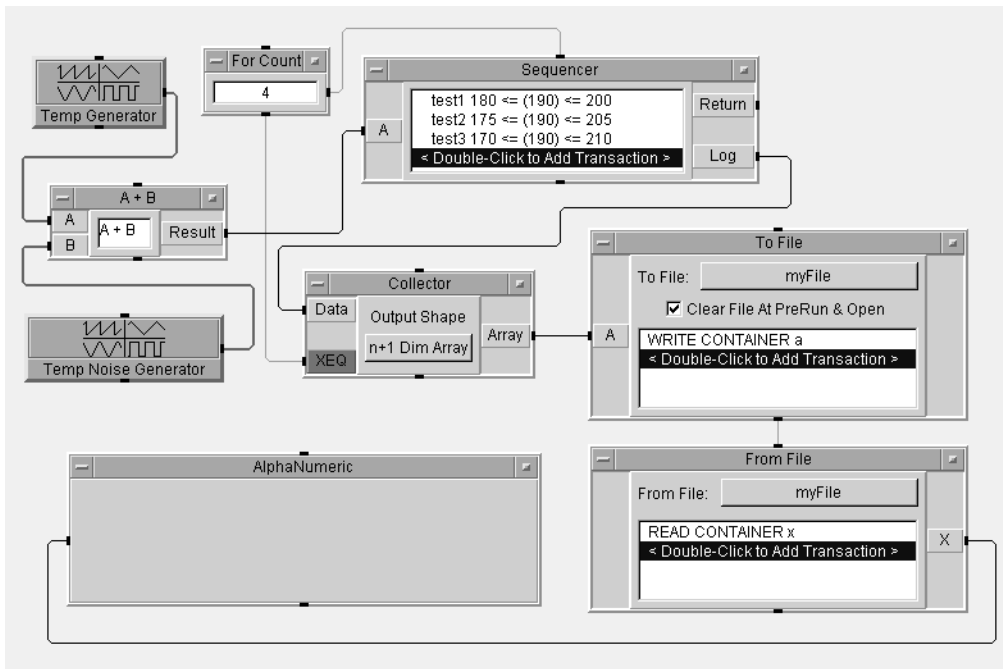

Figure 16.6. Partial layout of LAB 16.3
9. Change the value of For Count to 4. The layout is shown in Figure 16.6.